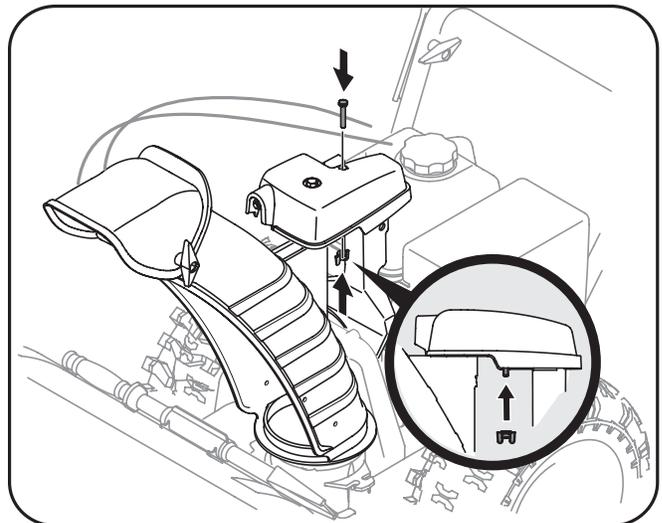

Figure 3-7
- Finish securing chute control assembly to chute support bracket with wing nut and hex screw removed earlier. See Fig. 3-7.